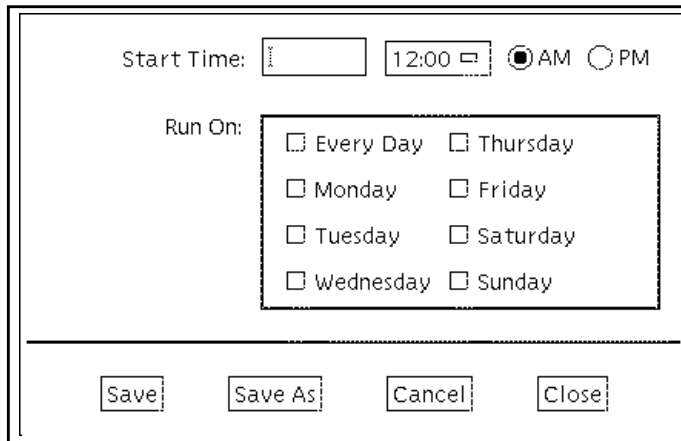
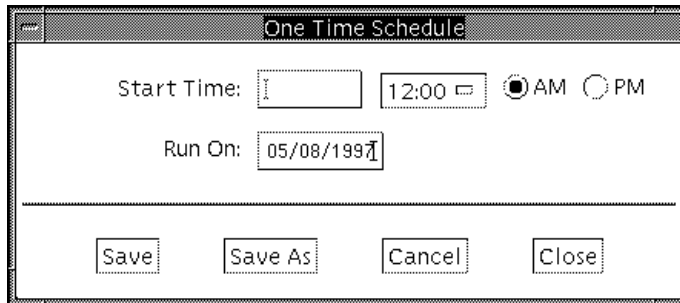

FIGURE 3-11 Periodic Schedule Form Display
FIGURE 3-12 One Time Schedule Form Display
- If you select “Use current configuration,” you will next see the screen for either testing type: Periodic (see FIGURE 3-11) or One Time (see FIGURE 3-12.)
- FIGURE 3-11 if you checked Periodic in FIGURE 3-9
- FIGURE 3-12 if you checked One Time in FIGURE 3-9
5. Fill out the schedule then click **Save** or **Save As** with the left mouse button (see FIGURE 3-11 or FIGURE 3-12).